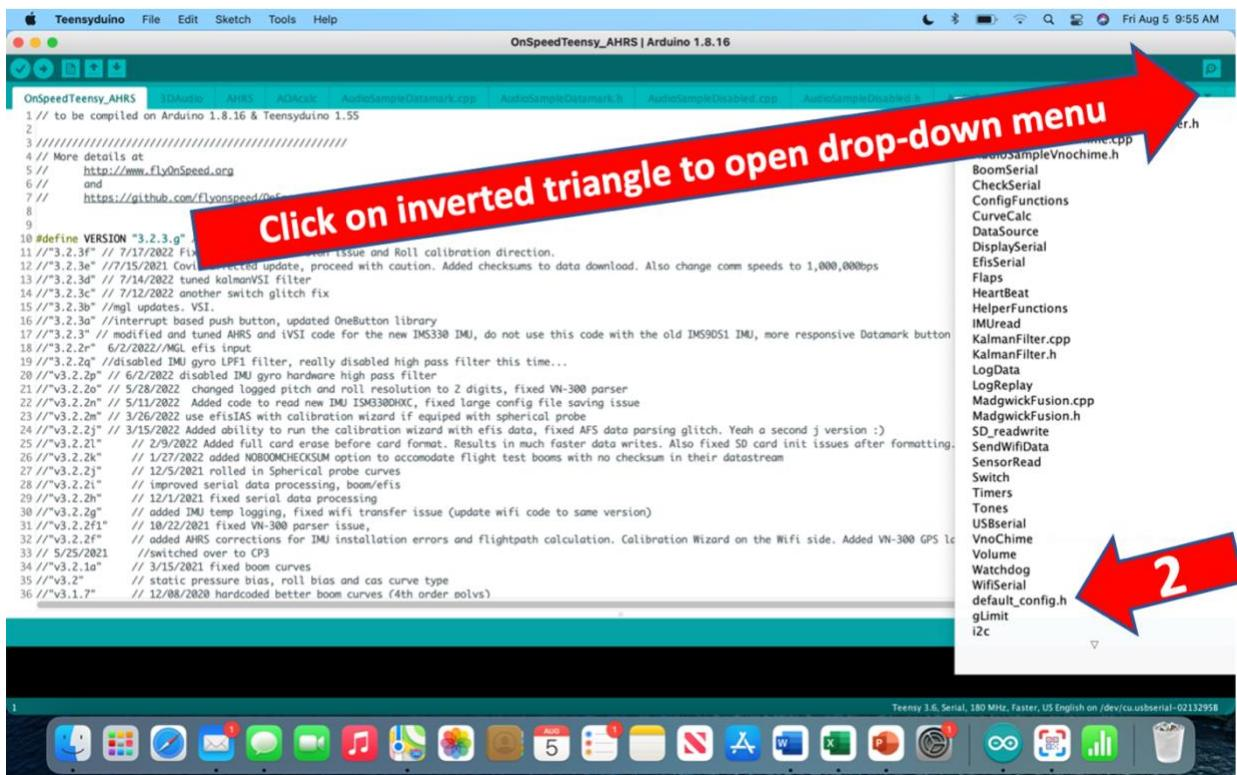

Figure 13. Navigate to config.h in the OnSpeedTeensy\_AHRS.ino software.
*Load Default Button.* The Arduino/Teensduino software has a default configuration tab (Figure 13). This tab stores the settings as a back-up to the automatic onspeed.cfg file stored in the log files directory on the SD card. It is recommended that after the system is set up and calibrated, the default\_config.h tab in the AHRS Arduino code be updated to provide this back-up function.